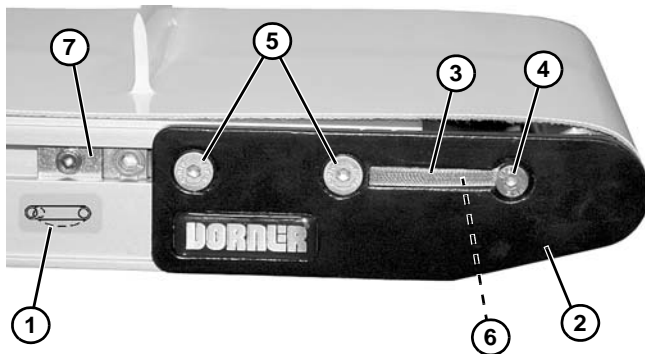

Figure 75
1. On tension end of the conveyor, identified with a  label (**Figure 75, item 1**), adjust head plate assembly (**Figure 75, item 2**):
- a. If equipped with dust covers (**Figure 75, item 3**), remove screw (**Figure 75, item 4**) and dust cover on both sides of conveyor. Reinstall screw (**Figure 75, item 4**).
- b. On both sides of conveyor, loosen fastening screws (**Figure 75, item 5**) and rotate pinion gear (**Figure 75, item 6**) to adjust head plate assembly.
3. After adjusting proper tensioning, tighten fastening screws (**Figure 75, item 5**) on both sides of conveyor to 60 in-lb (7 Nm).
4. If equipped, install dust covers (**Figure 75, item 3**).
5. If equipped with cam tracking assemblies (**Figure 75, item 7**), position against head plates and adjust belt tracking. Refer to "Conveyor Belt Tracking" on page 41.